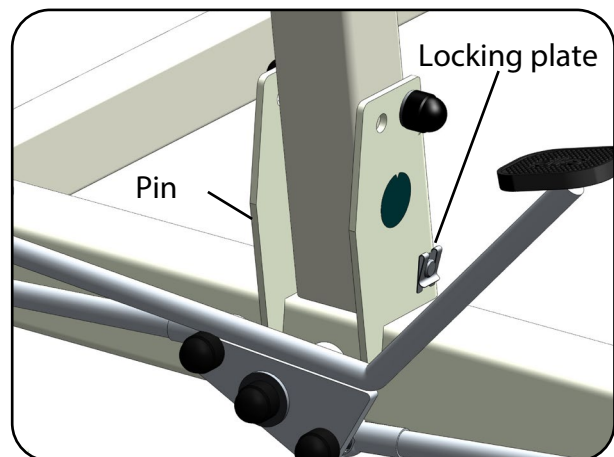
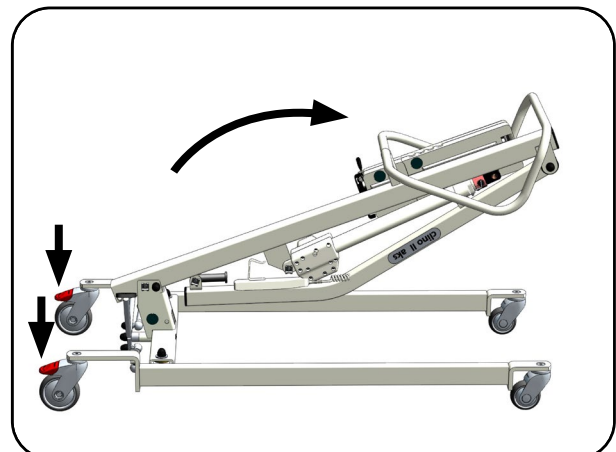

Fig.13.2.02 – Stand mast holder
Fig.13.2.03 - Folding away the stand mast
1. Brake the two rear castors on the operator side by activating the foot lever (Fig. 13.2.03) (see chapter on Operation, section **Castors**).
3. First swivel the lift drive and then swivel the lifting arm to the stand mast. Fix the lift drive and lifting arm to the stand mast using cable ties or Velcro strip (Fig. 13.2.03).
4. Remove the linchpin with the pin from the stand mast holder and slowly and carefully fold the stand mast forwards (Fig. 13.2.02 and Fig. 13.2.03).